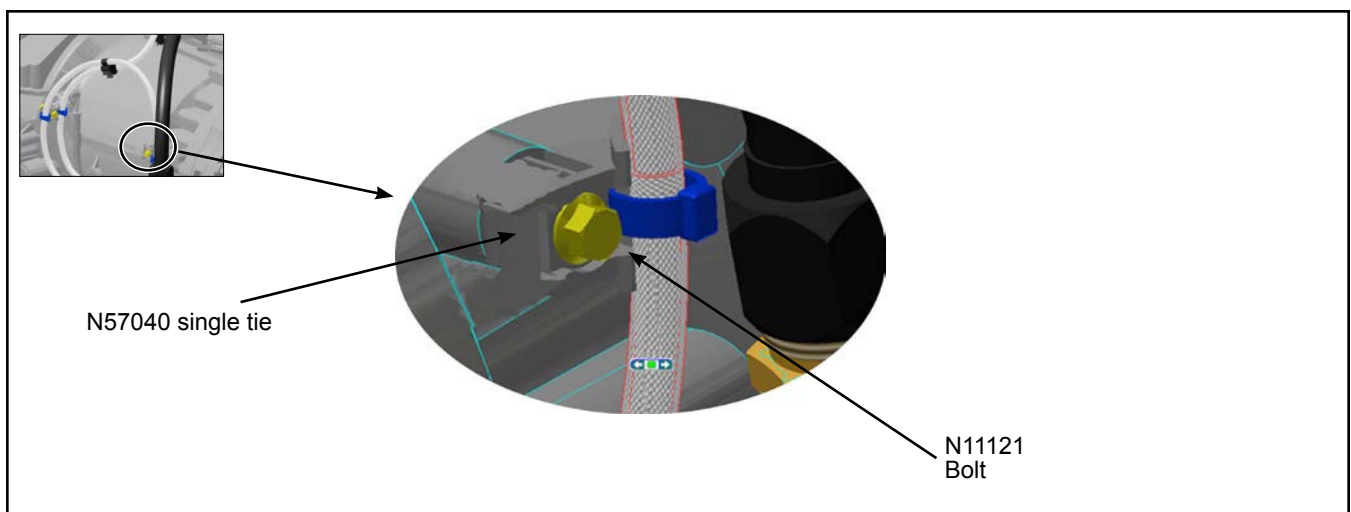

Figure 7 - Affixing the Upper Front Portion of the Hose
1.12. Install one N57040 tie cable mount with one N11121 as indicated in Figure 7.